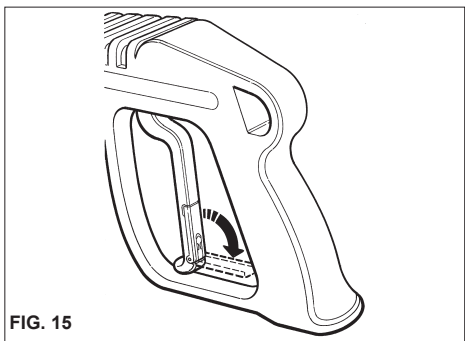

FIG. 15
- When the water cleaner is not used, close the safety device on the handle.(fig. 15).